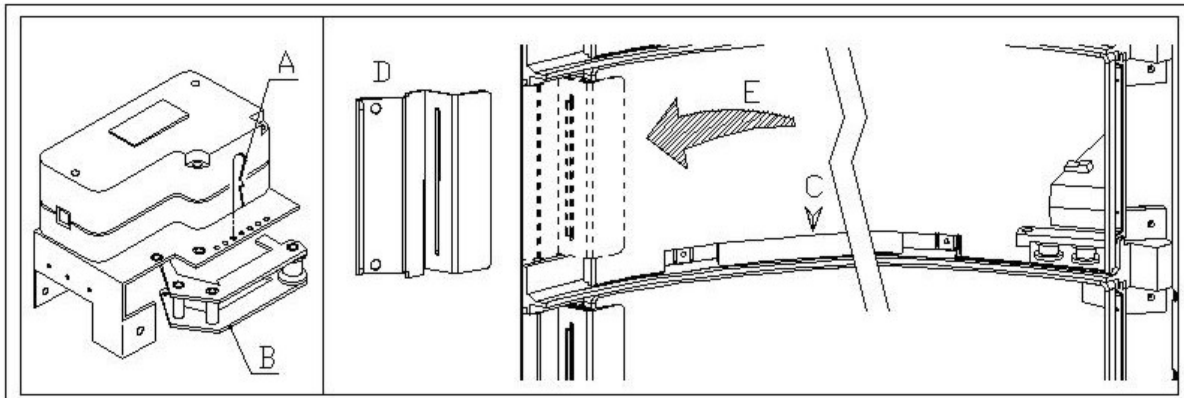

FIG. 15
8.9 REPLACING THE DELIVERY DOOR OPERATING BELT (FIG. 15)
- Remove the tension lock split pin from the relevant belt pos. A FIG. 15;
- Pull the tightening unit pos. B FIG. 15 downwards until it comes out completely;
- Remove the rear element pos. C FIG. 15 (if present, as it is an optional);
- Undo the screws that secure the door stop pos. D FIG. 15, and slide out the door in the direction indicated by the arrow pos. E;